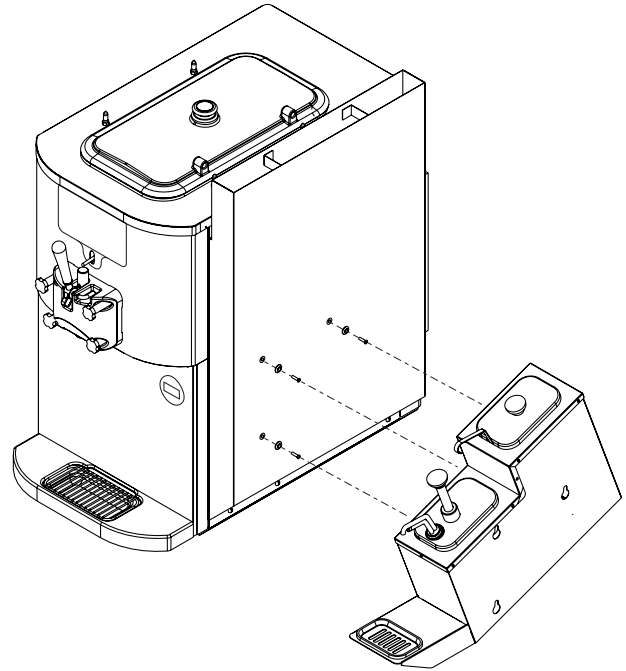

Figure 5
1. Three holes must be created in the side of the chute as in the Figure 5.